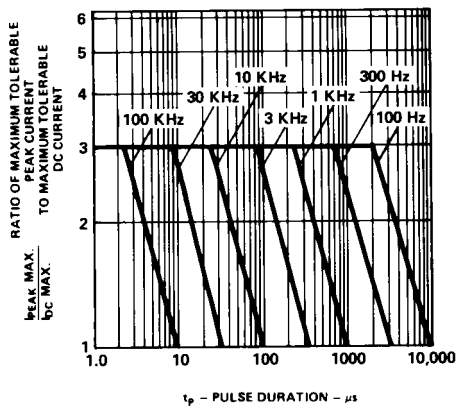

Figure 5. Maximum Tolerable Peak Current vs. Pulse Duration ( $I_{DC\ MAX}$  as per MAX Ratings).
- See Figure 5 (Red), 10 (Yellow), or 15 (Green) to establish pulsed operating conditions.